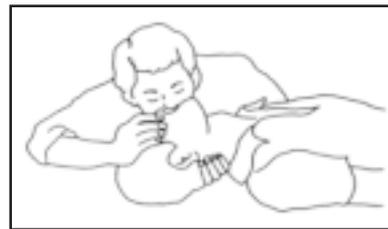

Figure 2
- if not breathing, begin artificial breathing (Figure 2): tilt head, pinch nostrils, make airtight seal, four quick full breaths. Remember mouth to mouth resuscitation must be commenced as soon as possible